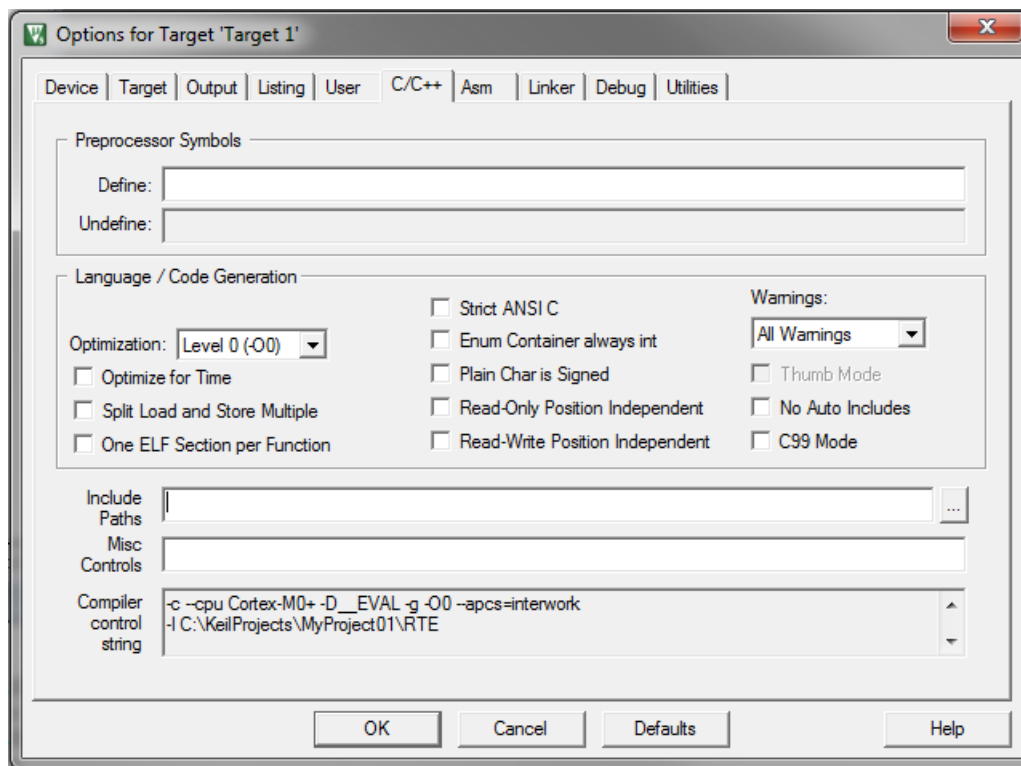

Figure 1-24. Library path addition
2. Select the C/C++ tab. See Figure 1-24.